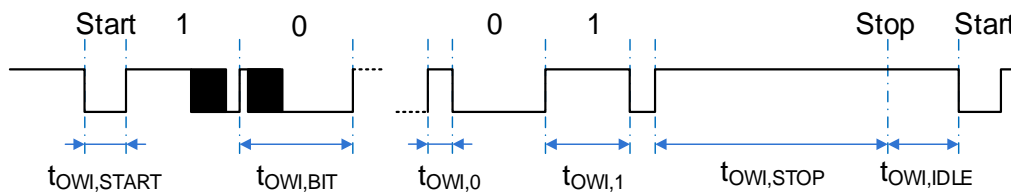
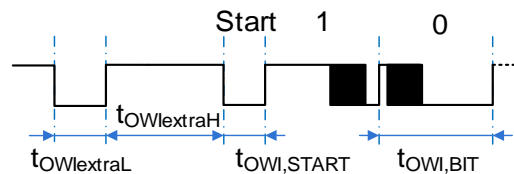

Figure 14. OWI Timing Diagram
Figure 15. OWI Extra (Activation) Pulse for Concurrent OWI and Analog Output Configuration
- **Valid Data:** Data is transmitted in bytes (8 bits) starting with the most significant bit (MSB). Transmitted bits are recognized after a start condition at every transition from low to high at the OWI line. The value of the transmitted bit depends on the duty ratio between the high phase and high/low period (bit period,  $t_{OWI,BIT}$  in Figure 14). A duty ratio greater than 1/8 and less than 3/8 is detected as 0; a duty ratio greater than 5/8 and less than 7/8 is detected as 1. The bit period of consecutive bits must not increase to more than 1.5 times the previous bit period or decrease to less than half of the previous bit period because a stop condition is detected in this case.
OWI protocol timing and parameters are specified in Figure 14, Figure 15, and Table 23.
- **Continuous OWI and Analog Output:** The configuration *owi\_off* = 0, *cont\_ANAoutn* = 0, and *owi\_su\_case* = 1 results in AOUT providing analog output levels as soon as they are available after power-up (in Cyclic Mode). Concurrently, the OWI listens to the AOUT1 pin in order to check for valid OWI commands. The OWI still needs to be enabled by means of the *Startup OWI* command. The physical protocol in this configuration requires an extra pulse (see Figure 15) prior the *Startup OWI* command. After the release of the extra OWI initialization pulse, the analog output is switched off2 and AOUT becomes the OWI I/O pin until the OWI startup window (according to *owi\_su\_length*) has elapsed. The OWI-master implements *Dynamic Driving* to avoid dynamic currents (due to DAC-output level changes) causing unwanted pull-up signal generation (via ROWI,PULL). When *Dynamic Driving Approach* is not applied in this configuration, set the constantly connected OWI-master pull-up resistances (ROWI,PULL) to ≥5.5kΩ to prevent erroneous OWI-start detections that can be triggered by changing DAC-output levels. Limit the interface speed to slower values with the proper setting, such as longer bit period.